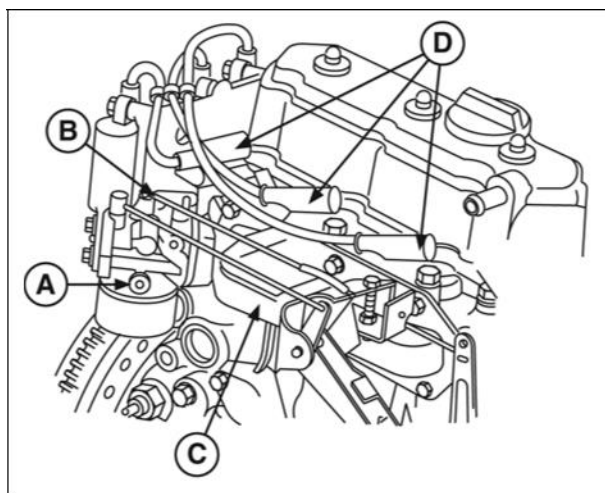

Figure 3
4. Remove the fuel line (A, Figure 3) and governor link and spring (B).
5. Remove the intake manifold (C) and spark plug wires and spark plugs (D).